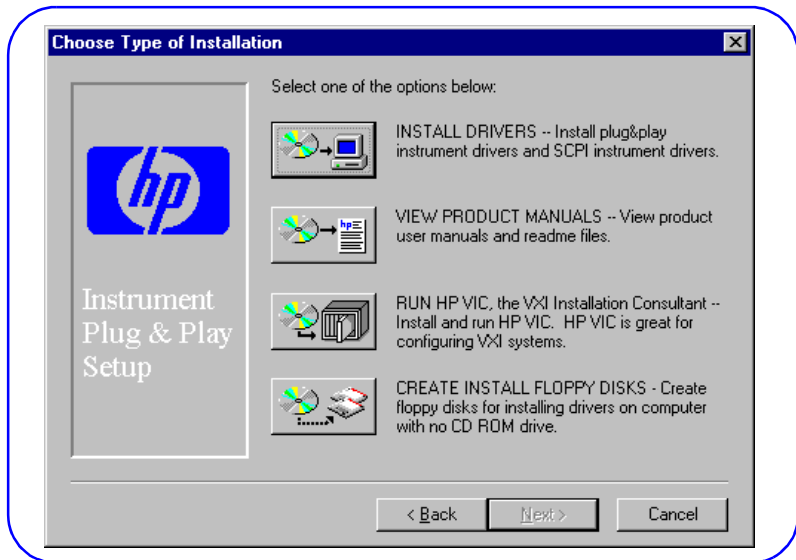

Figure 24. Choose Type of Installation Screen
- 3 When the main menu appears, click *Launch Installer or View Manuals*. Click *Next* on the next screen and *Yes* on the third screen to go to the **Choose Type of Installation** screen (see Figure 24).